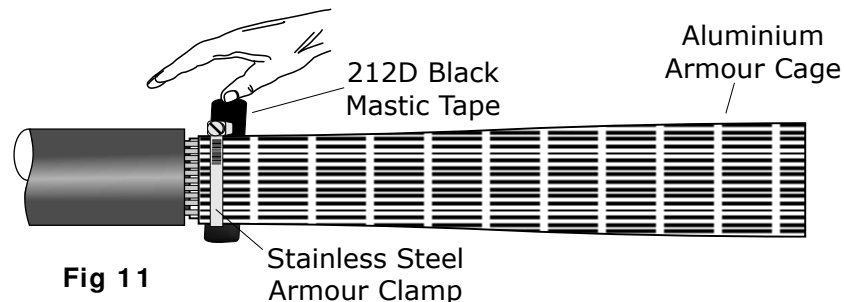

Fig 11
15. Apply the remaining pieces of 212D black mastic tape over the clamps and any sharp points as shown in Fig 11.